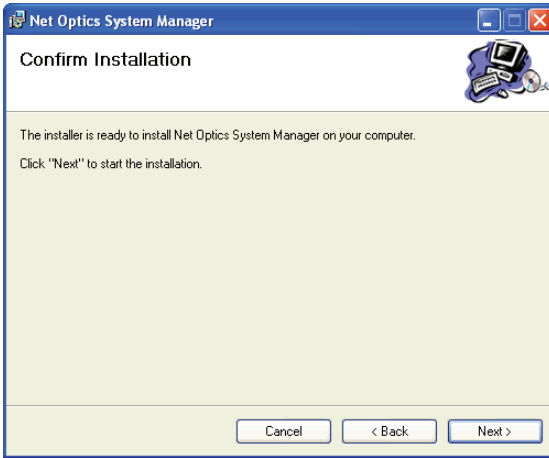
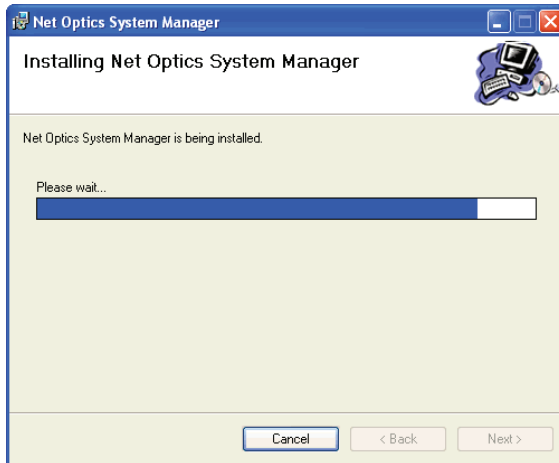

Figure 22: Confirm Installation
Figure 23: Installation Progress
5. Click **Next**. The Confirm Installation dialog box shown in Figure 22 appears. To continue the installation, click **Next**. The Progress dialog box appears as shown in Figure 23.